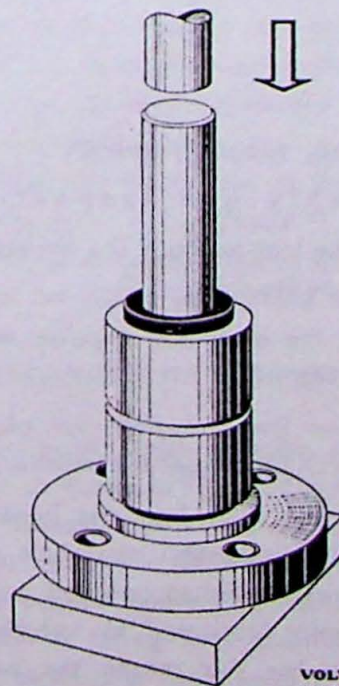

Fig. 1-85. Fitting the hub
1. Press the shaft into the hub, see Fig. 1-85. Lay a washer which is about 2 mm (0.080") thick under the end of the shaft.